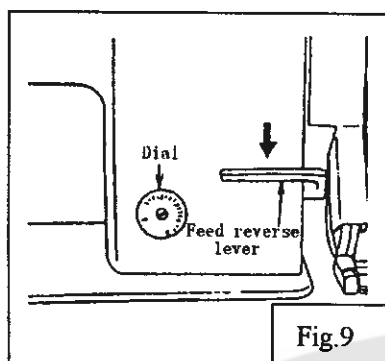

Fig.9
5. Adjustment of stitch length and reverse sewing (Fig.9):